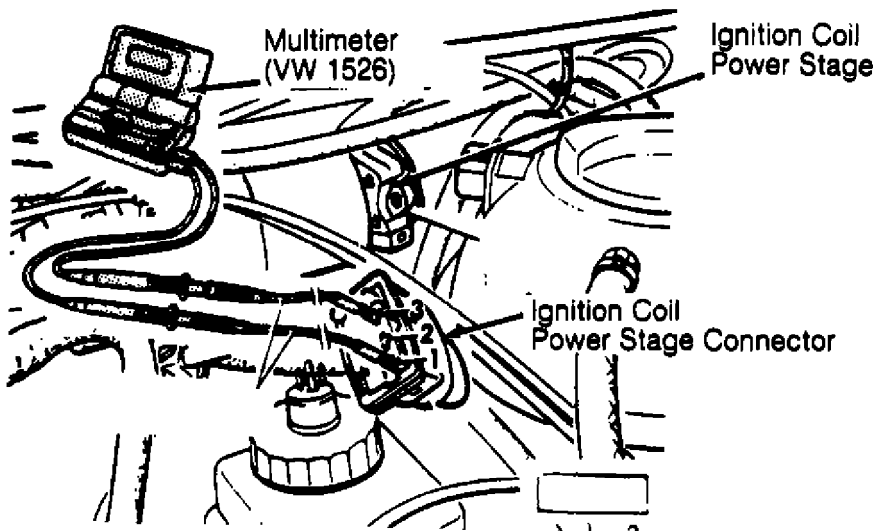

Fig. 7: Testing Typical Ignition Coil Power Stage
1) With ignition off, disconnect the coil power stage harness connector. Connect a voltmeter to terminals No. 1 and No. 3. See Fig. 7.
1) Ground the ignition coil secondary lead. Remove coil power stage connector and connect a LED test light (US 1115) between terminals No. 2 and No. 3. See Fig. 7.